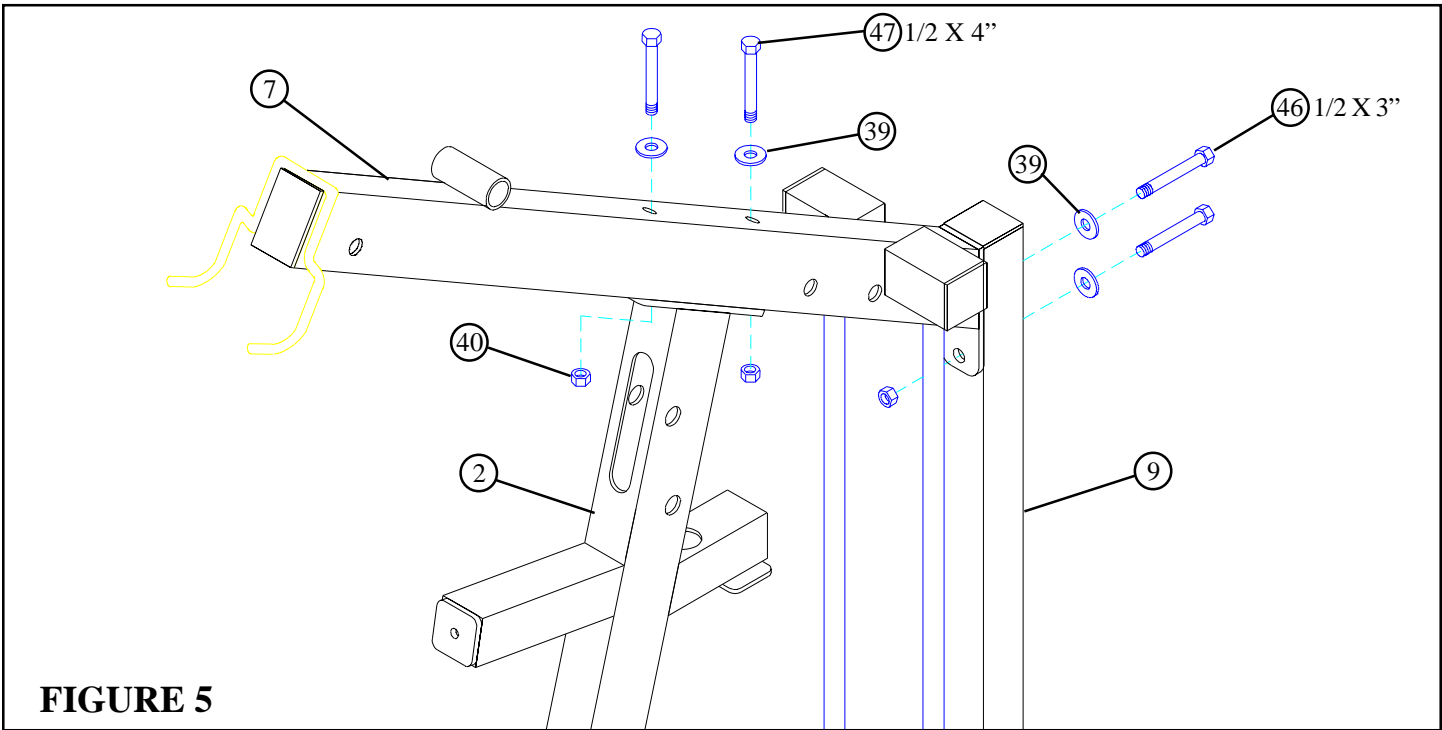

FIGURE 5
- Loosely assemble the TOP BOOM (7) to the REAR UPRIGHT (9) using two 1/2 X 3" BOLTS (46), two 1/2" WASHERS (39), and one 1/2" LOCKNUT (40). See FIGURE 5.
- Loosely assemble the TOP BOOM (7) to the FRONT UPRIGHT (2) using two 1/2 X 4" BOLTS (47), two 1/2" WASHERS (39), and two 1/2" LOCKNUTS (40). See FIGURE 5.
- At this time, securely tighten all frame connections in this order: REAR UPRIGHT (9) to TOP BOOM (7), REAR UPRIGHT (9) to BASE (8), TOP BOOM (7) to FRONT UPRIGHT (2), and FRONT UPRIGHT (2) to BASE (8).